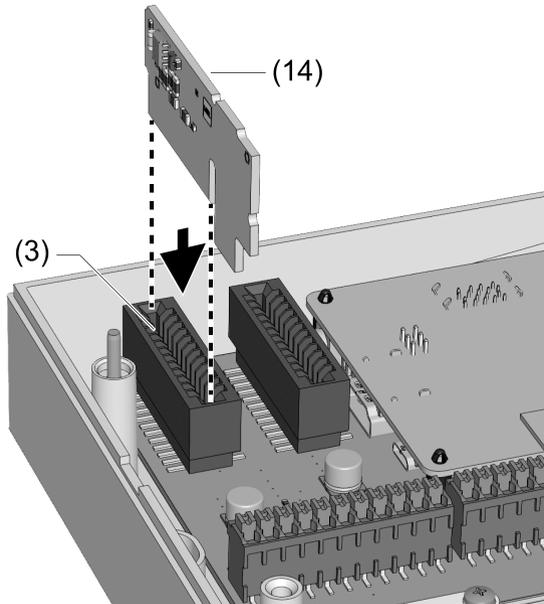

Figure 3: Inserting the interface **DMX**
- Insert the interface **DMX** (14) into slot **F1** (3) as shown (Figure 3).